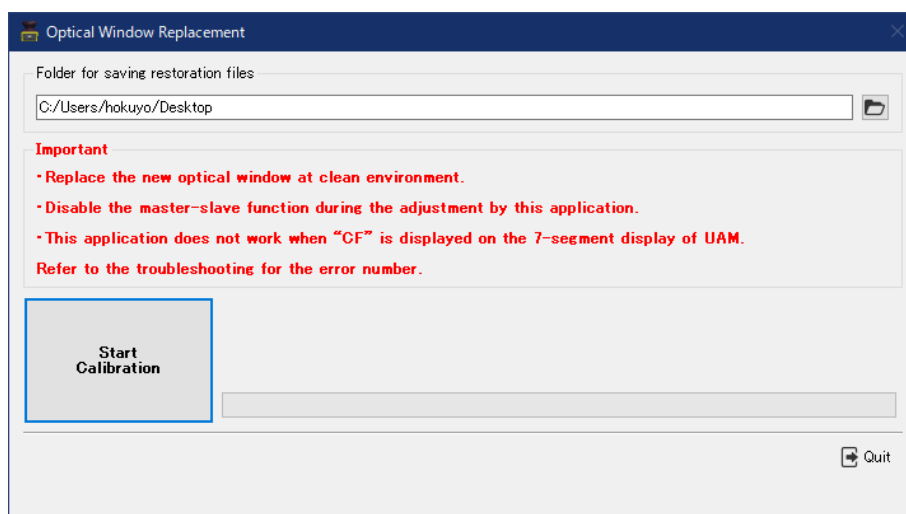
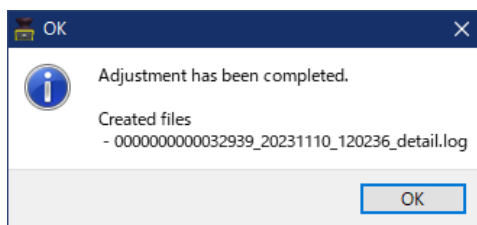

Figure 8-2 Optical Window Adjuster
Figure 8-3 Adjustment completed display
- a) Connect UAM with the Project Designer and switch the device to setting mode. From the menu, select [Options] → [Optical Window Replacement] to open the optical window replacement tool as shown in Figure 8-2
- d) When the adjustment is complete, dialog box as shown in Figure 8-3 will appear. Click the OK button. USB will be disconnected automatically and UAM will switch to normal operation. Retry the adjustment after checking the optical window and USB connection if an error occurs during the process. If adjustment fails even after repeated trial contact the nearest distributor or sales representative for support. Send the log file and calibration data file for investigating the cause of failure in such case.
- e) When adjustment is complete, dialog box as shown in Figure 8-3 will appear. Click the OK button and then click disconnect button (Figure 8-2). Remove the USB cable. UAM will switch to normal operation. Retry the adjustment after checking the optical window and USB connection if an error dialog as shown in Figure 8-4 is displayed. If adjustment fails even after repeated trial contact the nearest distributor or sales representative for support. Send the log file and calibration data file for investigating the cause of failure in such case.